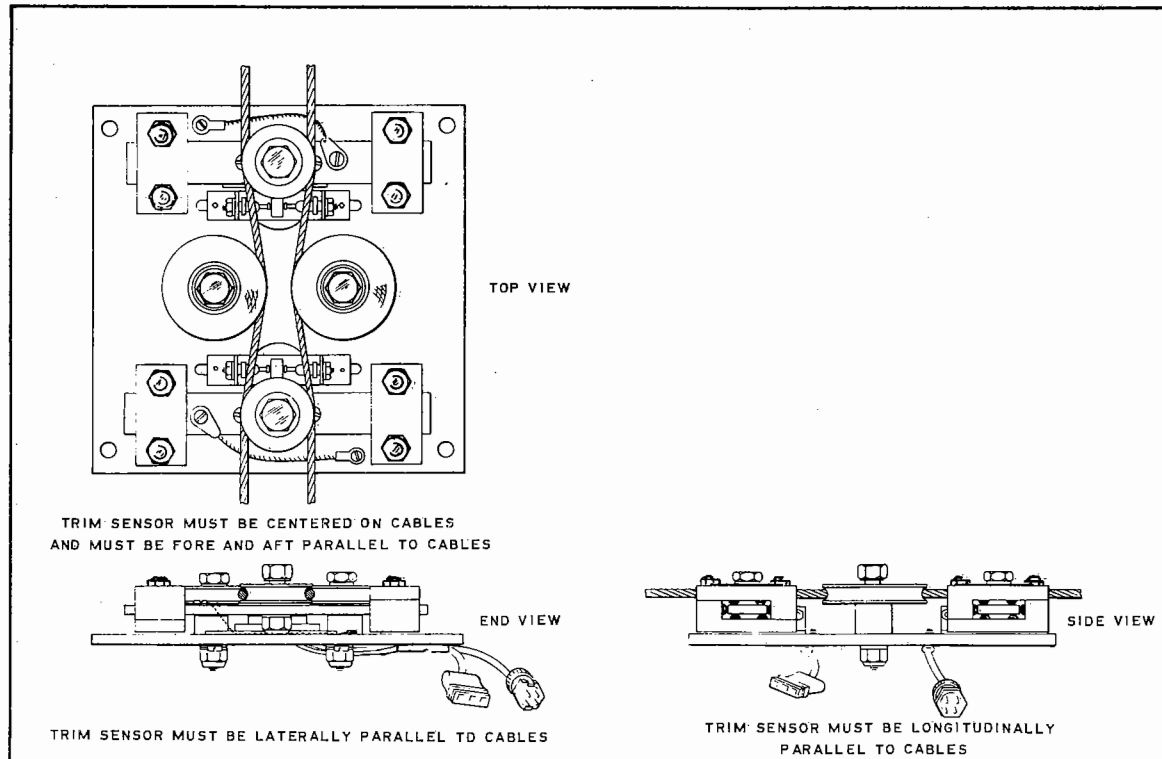

Figure 21-4. PA-23-250 Dual Contact Type Trim Sensor
**21-7. INSTALLATION OF TRIM SENSOR. PA-23-250 (Six Place). (Refer to Figure 21-4.)**